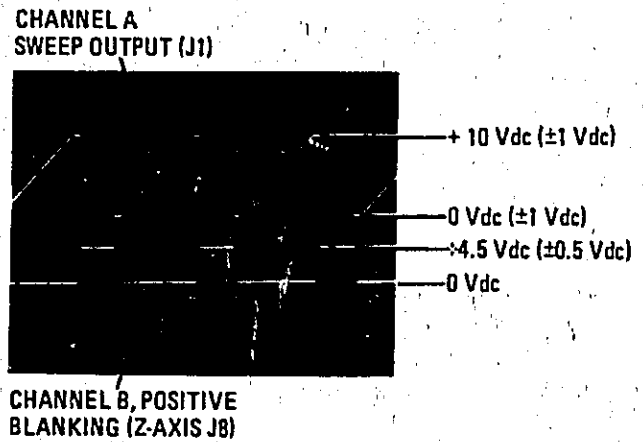

Figure 4-12. Positive Blanking at J8 Compared in Time to Sweep Outputs at J1
- q. Adjust oscilloscope to display waveforms as shown in Figure 4-12.